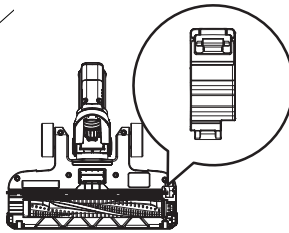

Fig. 20
3. Push the small lever at the side of the brush in the direction of the front of the floor head and lift off the retaining plate (fig. 20).